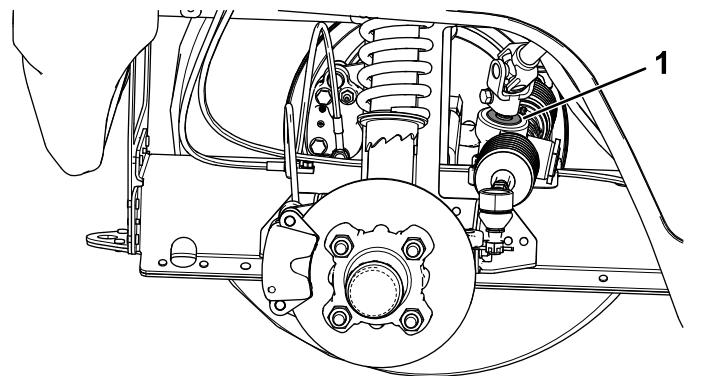

Figure 54
- Important:** Inspect the condition and security of the pinion-shaft seal (Figure 54).